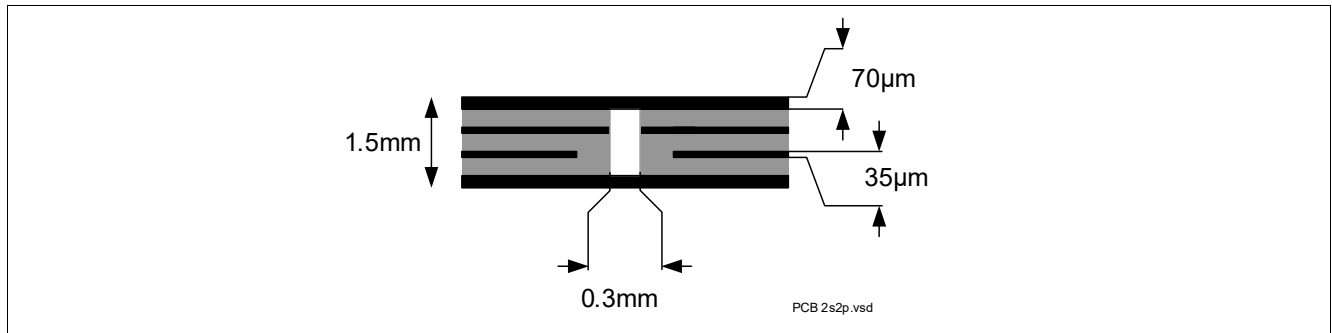

Figure 4 2s2p PCB Cross Section
- 2) Specified R_{thJA} value is according to JEDEC JESD51-2,-5,-7 at natural convection on FR4 2s2p board with 1 W total power dissipation at $T_A=105^{\circ}C$; The product (chip + package) was simulated on a 76.4 x 114.3 x 1.5 mm board with 2 inner copper layers (2 x 70 μm Cu, 2 x 35 μm Cu). Where applicable, a thermal via array under the exposed pad contacts the first inner copper layer. Please refer to Figure 4.